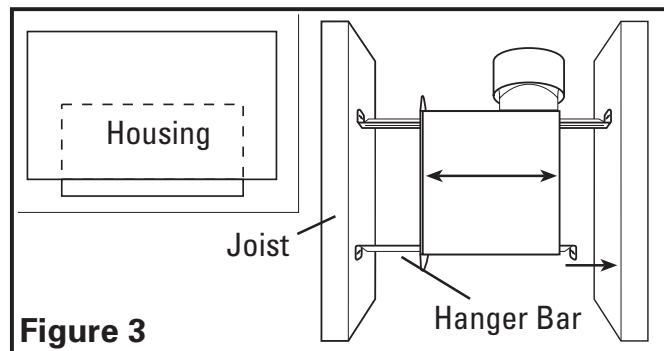
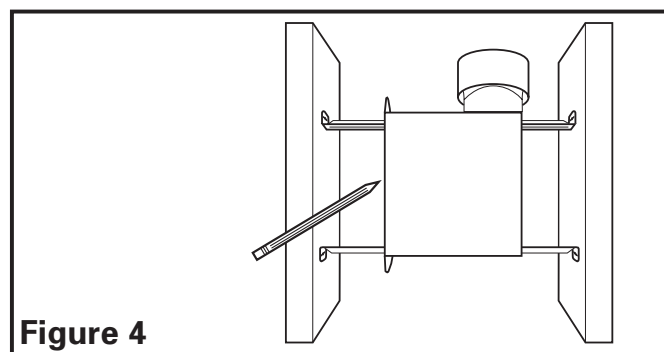

Figure 3
Figure 4
1. Install the side rails on the housing and position the housing next to the joist. Using the gauge on the fan's housing, line up housing so that it will be flush with the finished ceiling. Secure the ends of the rails to the joists with screws or nails (not included). Slide the housing into its final position (**Figure 3**).
1. Set housing in position between the joist and trace an outline onto the ceiling material (**Figure 4**). Set housing aside and cut opening, being careful not to cut or damage any electrical or other hidden utilities. Install the side rails on the housing and position the housing in the previously cut hole so that it is flush with the finished ceiling. Secure the ends of the rails to the joists with screws or nails (not included) (**Figure 3**).